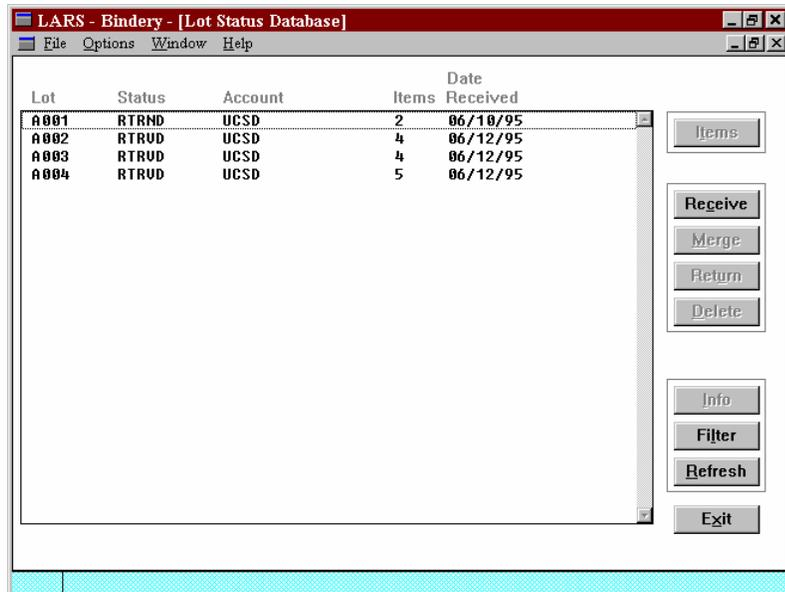

Figure 34 - Receive Shipment window with lots already formatted into a bindery job
**A:** After you retrieve all information from the library shipment diskette into a bindery job, you may choose to *return* the information back to the library. Sometimes what the library enters into the shipment gets changed at the bindery. You can see that the shipment status in the *Lot Status Database* window will change to retrieved after you've completed the formatting (see Figure 34).